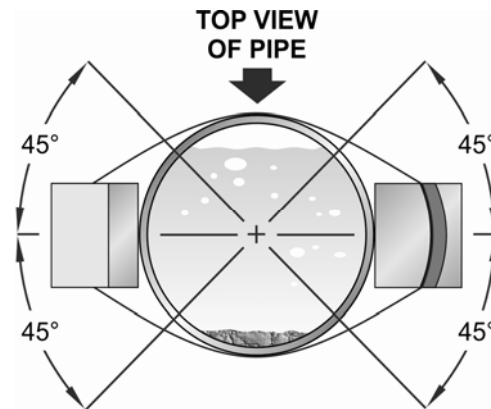

Figure 2.2 Horizontal pipe transducer mounting
The HTTP transducers need to be properly oriented on the pipe to provide optimum reliability and performance. On horizontal pipes, the transducers should be mounted 180 radial degrees from one another and at least 45 degrees from the top-dead-center and bottom-dead-center of the pipe. See **Figure 2.2**. Figure 2.2 does not apply to vertically oriented pipes.
3. Crease the paper at the fold line. Mark the crease. Place a mark on the pipe where one of the transducers will be located. See **Figure 2.2** for acceptable radial orientations. Wrap the template back around the pipe, placing the beginning of the paper and corner in the location of the mark. Move to the other side of the pipe and mark the ends of the crease. Measure from the end of the crease (directly across the pipe from the first transducer